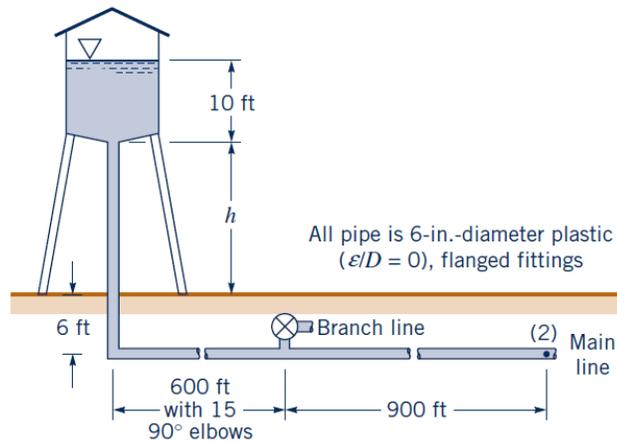

Fig. 2
5. The pressure at section (2) shown in Fig. 2 is not to fall below 60 psi when the flowrate from the tank varies from 0 to 1.0 cfs and the branch line is shut off. Determine the minimum height,  $h$ , of the water tank under the assumption that (a) minor losses are negligible, (b) minor losses are not negligible.